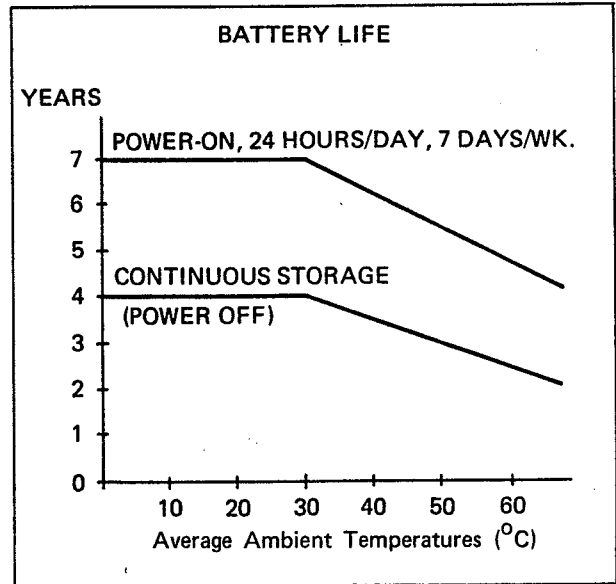

Figure 5.10 - Battery Life Graph
5.4.5.5 Suggested Battery Replacement Interval can be determined from Figure 5.10. It is supplied as an aid to determine how often the Lithium battery, BT1, should be replaced. Notice that the worst-case battery drain occurs if the instrument is stored at high temperatures with the power off (3 year replacement interval). For most applications, a 4 year replacement interval is suggested.